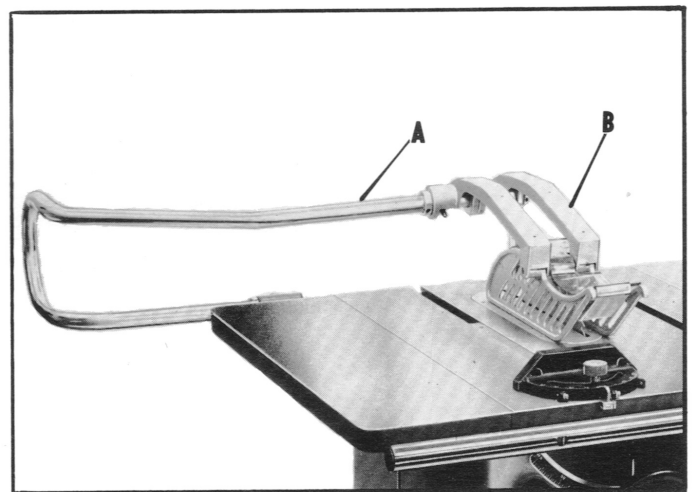

Fig. 20
9. When using a dado head, moulding cutter, or ripping narrow stock, the support arm (A) Fig. 20, should be moved to the left. When ripping narrow stock, the right hand basket (B) can be flipped up out of the way and a push stick, such as shown on page 18, should be used to complete the feed. The push stick will pass between the left hand basket and the fence. When the support arm is moved to the right, the blade can be tilted 45 degrees without striking the right basket (B) Fig. 20. For ripping, cross cutting or bevel cutting, the support arm (A) should be moved to the right.